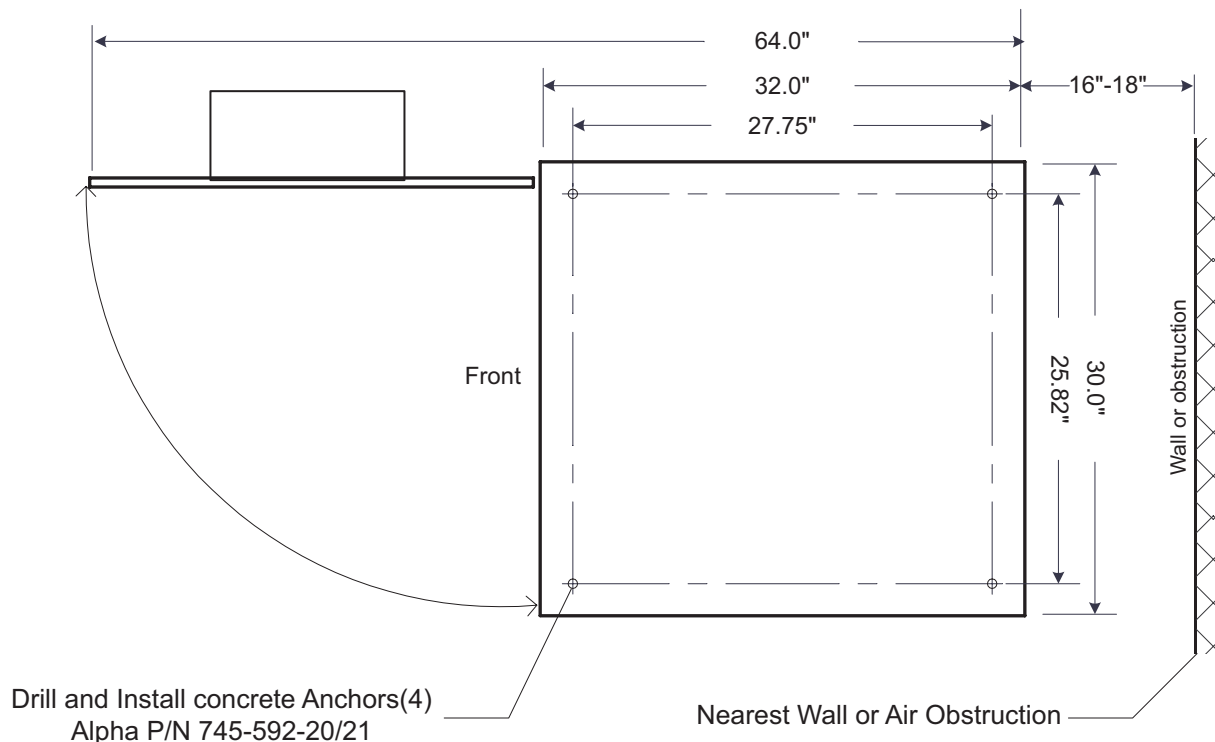

Fig. 2-2, Pre-existing Concrete Pad Layout (top view)
5. Use the optional Vapor Barrier as a template or use the dimensions in Fig. 2-2 (page 28) to mark drilling locations. Ensure the pad is smooth, level and free of bumps.